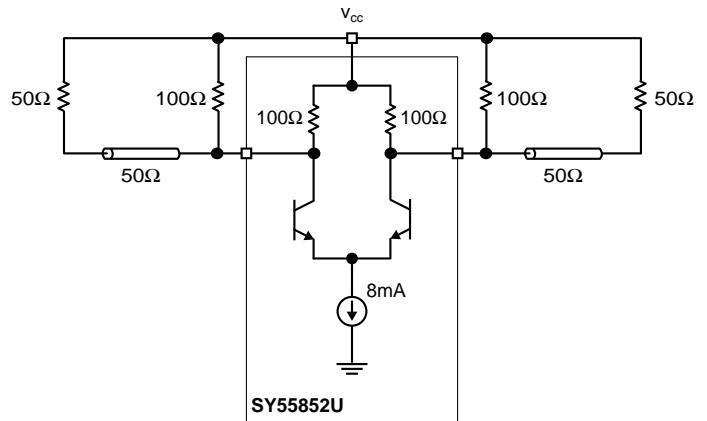

Figure 3b. Individually Terminated (50Ω Load CML Output)
1. Tested using environment of Figure 3b, 50Ω load CML output.